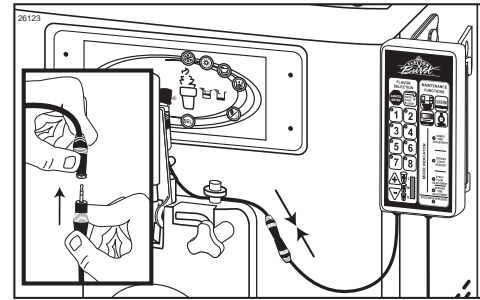

Figure 118
5. Fully insert the Keypad stereo plug into the Spigot Switch jack and ensure that the connection is fully engaged. (See Figure 118.)